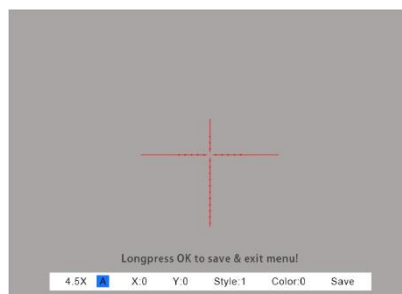

Fig. 15
- (3) **Profile setting:** Once on the zeroing page, press [Key 1] or [Key 3] create a new zeroing profile or edit an existing one (**Fig. 15**).